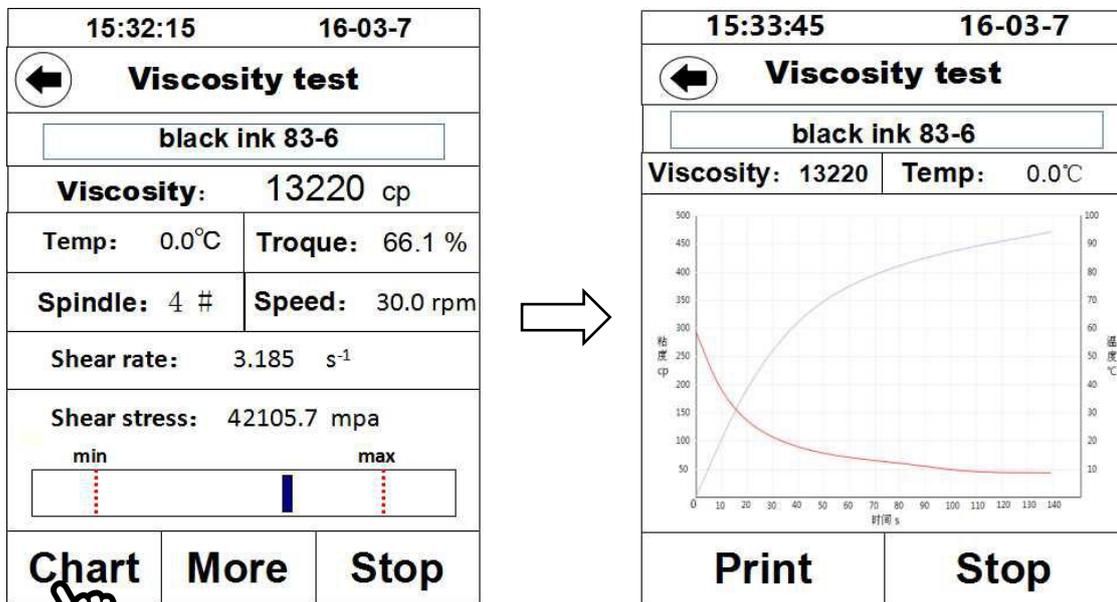

Fig. 22
1.5 Click “**Chart**” in testing, and the displaying interface will display the coordinate system (Fig. 22), click [←] at the left top to return to the list interface, and click “**Print**” to print the current test data and coordinate curve through an externally equipped printer (an external printer is required).